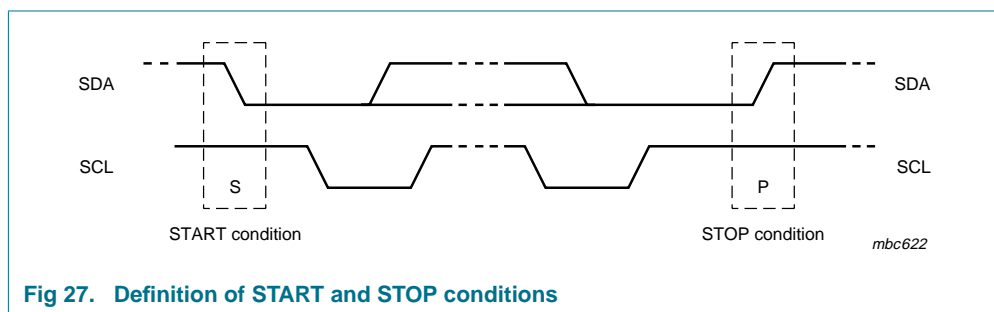

Fig 27. Definition of START and STOP conditions
Both data and clock lines remain HIGH when the bus is not busy. A HIGH-to-LOW transition of the data line, while the clock is HIGH is defined as the START condition (S). A LOW-to-HIGH transition of the data line while the clock is HIGH is defined as the STOP condition (P). The START and STOP conditions are shown in Figure 27.